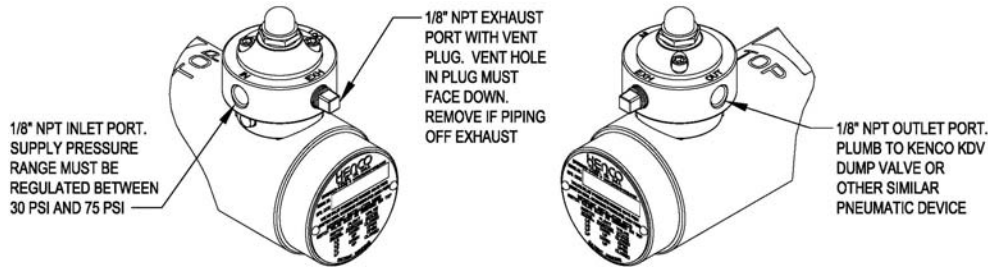

Figure 1
- For plumbing instructions, refer to Figure 1. When plumbing the valve, use a quality thread sealer. Take care not to use too much sealer since the excess could enter the valve and inhibit proper operation. Connect the supply line to the inlet port of the KPFS valve. If using a KPFS with the –R option (supplied filter/regulator), connect the Kenco regulator to the inlet port of the KPFS valve and the supply line to the inlet port of the filter/regulator. **Note: The pneumatic source must be clean and dry instrument quality air or gas. If dirt and/or moisture are allowed to enter the valve, it could inhibit proper operation.**